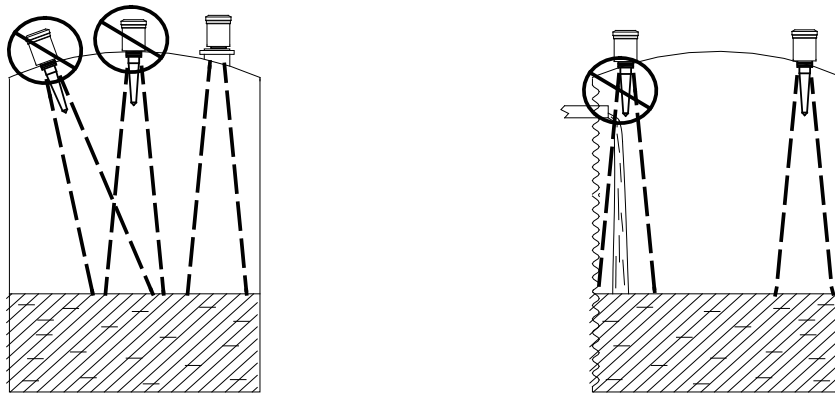

Figure 2.1
- Mount your True Echo® series radar so that it has a clear, perpendicular path to the surface being monitored. Your sensor should be mounted away from tank or vessel inlets. Do not mount radar in center of domed tank. (See Figure 2.1)